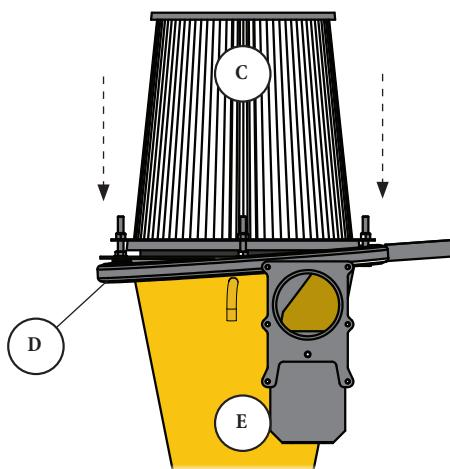

FIG. 18
- 18** Open and slide the Ring Clamp (D) over the assembly so that it rests outside the upper flange of the Cyclone (E) [FIG. 18].